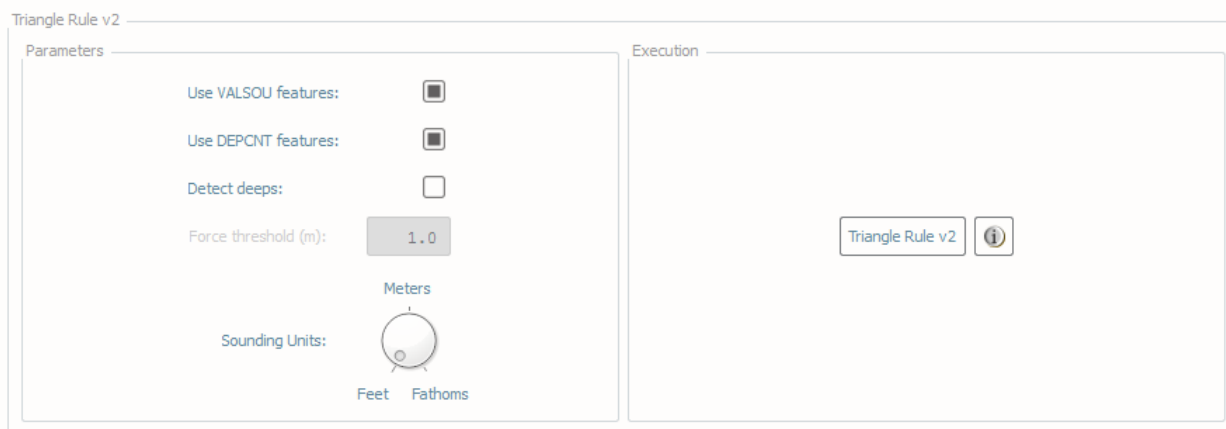

Fig. 2.41: Triangle rule's interface.
- In **Parameters** (Fig. 2.41, left side):
- In **Execution** (Fig. 2.41, right side), click **Triangle Rule v2**.